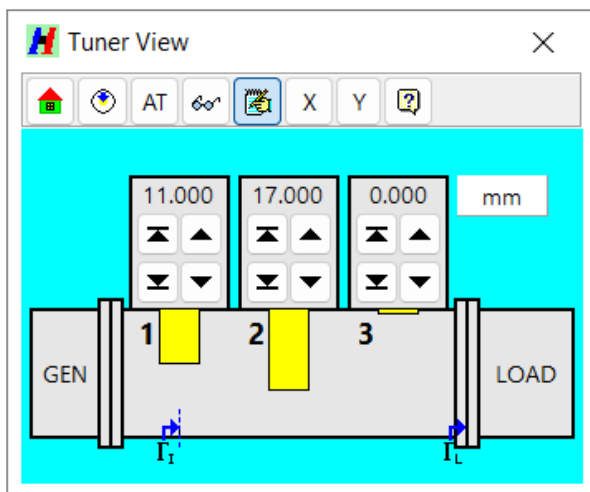

Fig. 64. Tuner View window.
- Open the Tuner View window (Fig. 64) by clicking the **Tuner | View** menu item or the  button.